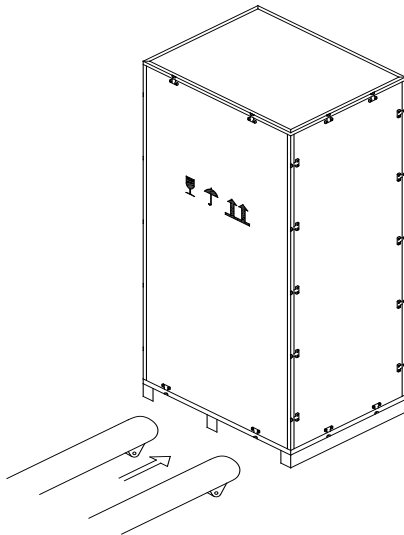

Fig. 13. Transport to the designated site
2. Transport the equipment to the designated site by forklift, as shown in Fig. 13.